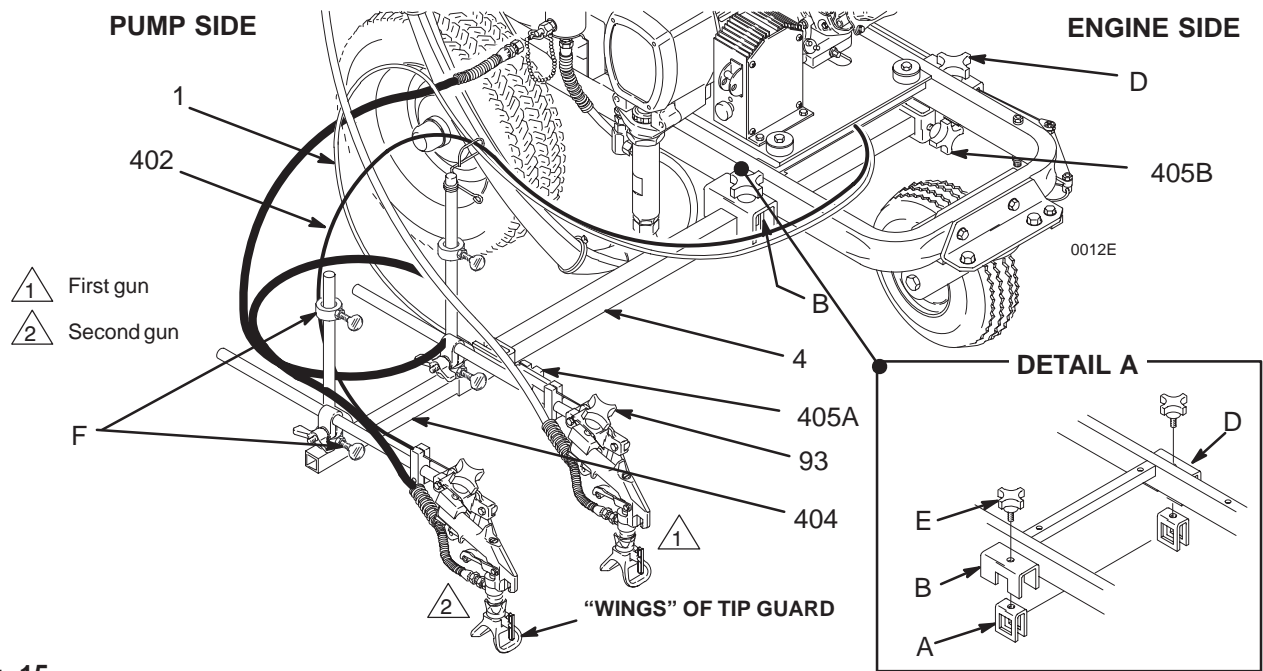

Fig. 15
2. Be sure the RAC IV Tip Guard is always parallel to the ground and the "wings" of the spray tip guard face the front and back of the unit, as shown in Fig. 15.
NOTE: See Fig. 15. Two collars (F) are located above and below each gun. The collars can be adjusted to provide stops for preset spray width positions for each gun.
1. See Fig. 15. For both guns, disengage the trigger cable and engage the trigger safety latch. See page 22.
2. Loosen the gun holder knobs (93) and remove the gun. Lay the guns out of the way.
3. Remove the knobs (E) on both carriage clamps (B,D); the carriage bar (4) and extension clamps (A) will drop down.
5. Position the carriage bar below the carriage clamps (B,D). Align the holes in the top of the extension clamps (A) with the holes in the carriage bar clamps and install the knobs (E).
6. Loosen the post/arm clamps (6) and rotate the guns forward. Retighten the clamps.